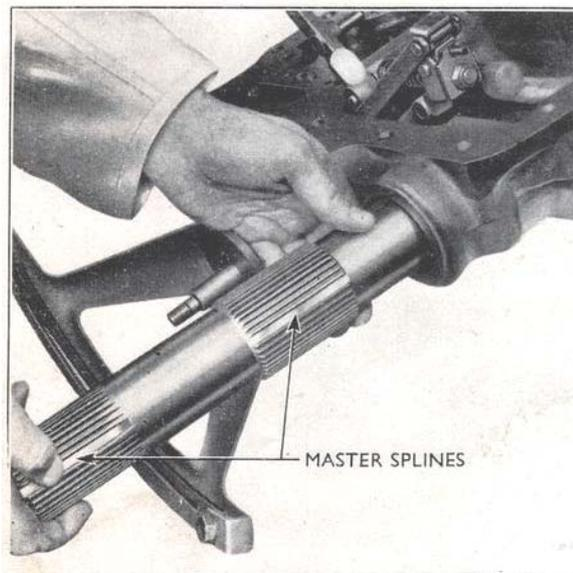

Fig. 36
12. Instal the lift cross-shaft, picking up the master spline in the ram arm on the corresponding master spline on the centre of the shaft. (See Fig. 36.)